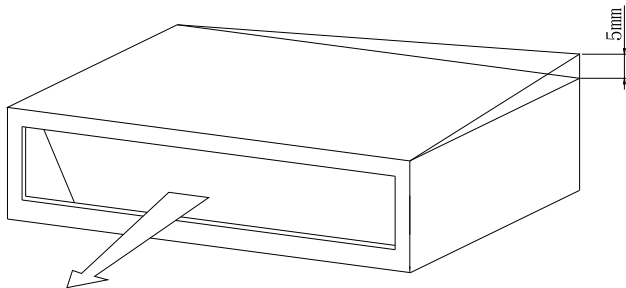

Fig. 6.7 Top Surface Inclination Degree
(2) As shown in Fig. 6.7, the rear part of indoor unit is slightly lower than its front part (by 0~5mm) so as to facilitate drainage.
(3) Tighten the suspension nut upon completion of adjustment. It's essential to apply thread locking agent to avoid nut looseness.